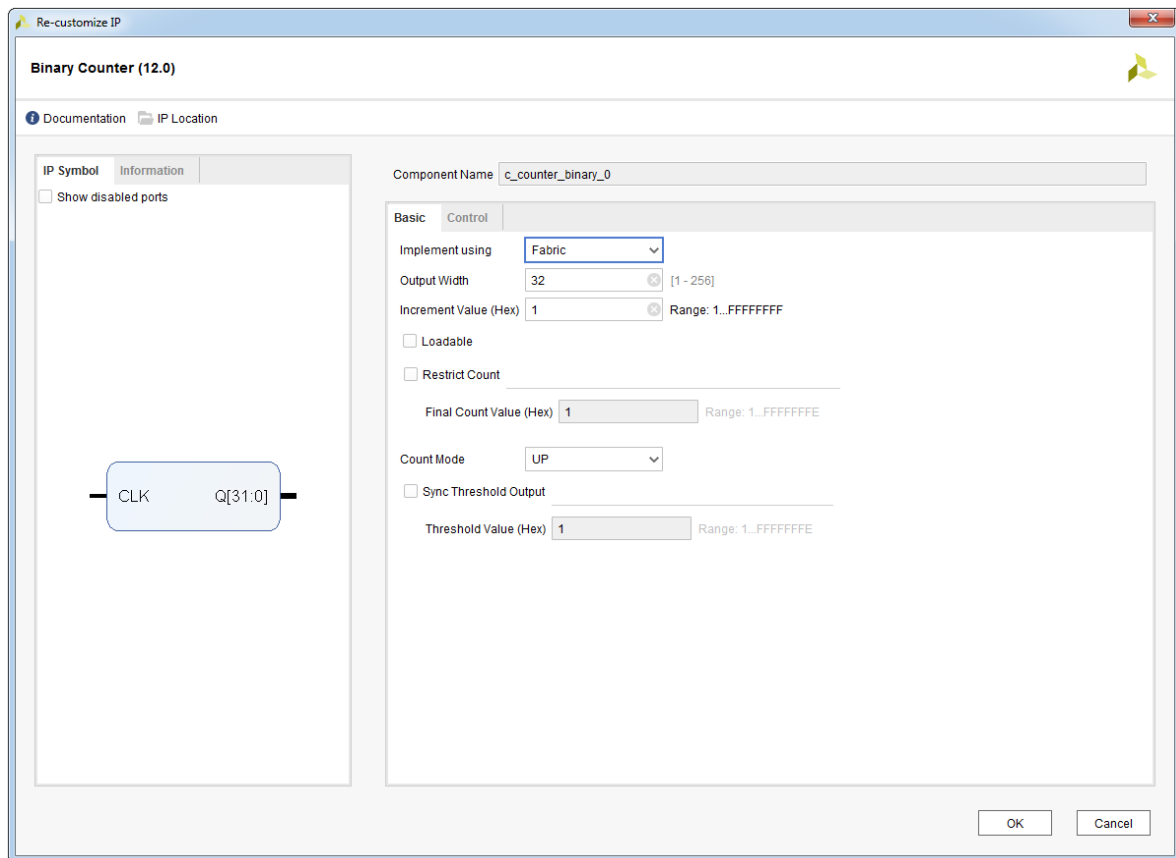

Figure 3.5: Binary Counter (12.0) re-customization IP dialog box - Basic tab
- set **Output Width** value to **32**, see Figure 3.5 and